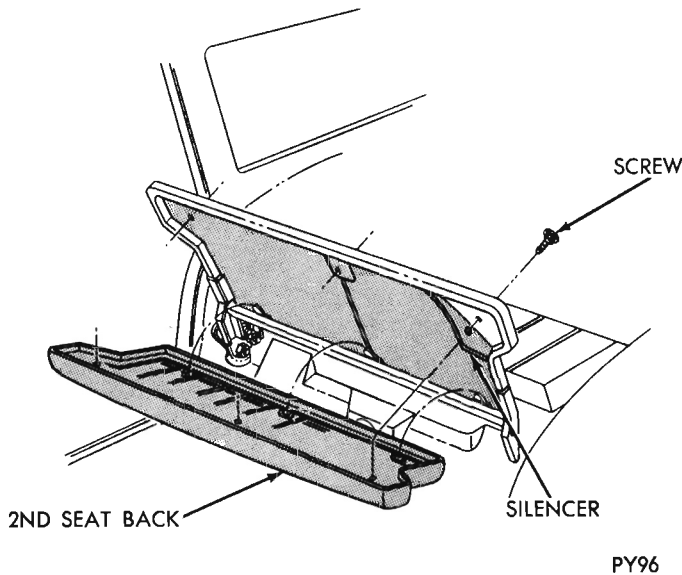

Fig. 33 - Second Seat Back
(1) Remove screws attaching seat back to hinge assemblies (Fig. 33).
(2) Release catches from seat back and remove assembly.